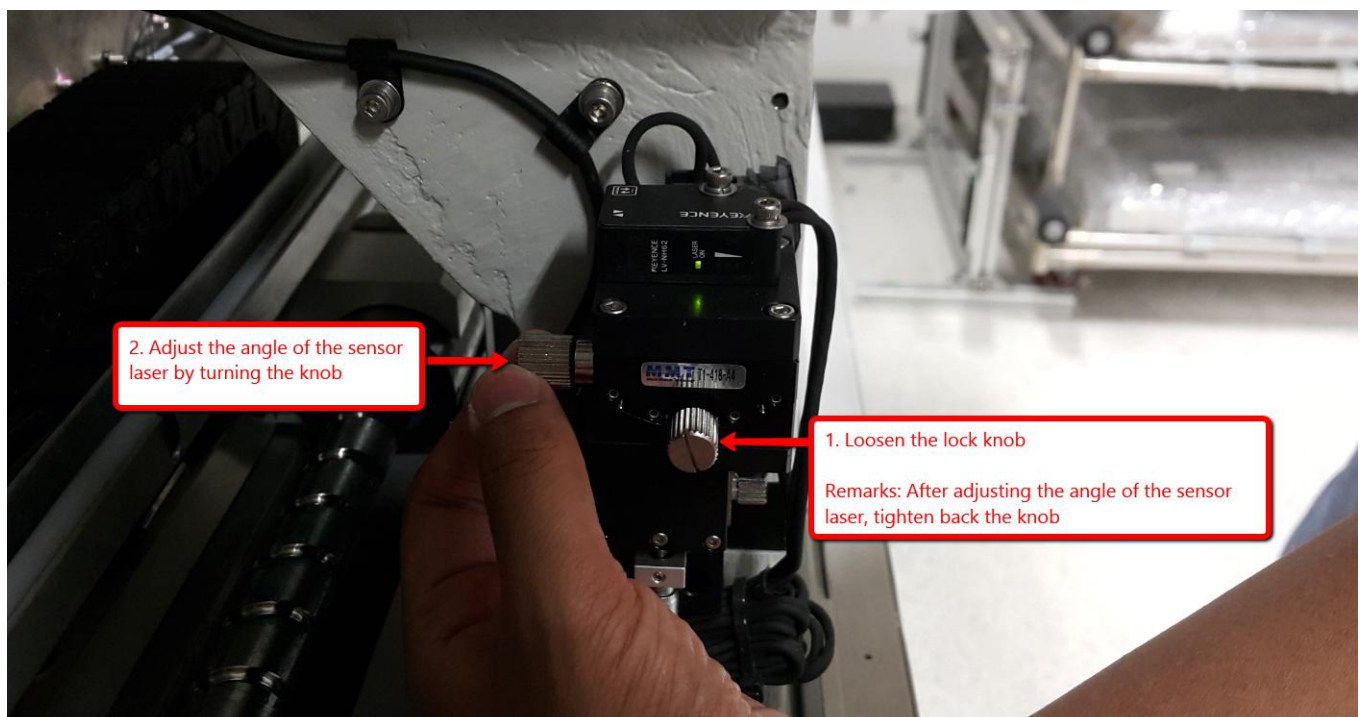

Figure 14 Sensor Laser Angle Adjustment
- Adjust Sensor Angle as Figure 14.